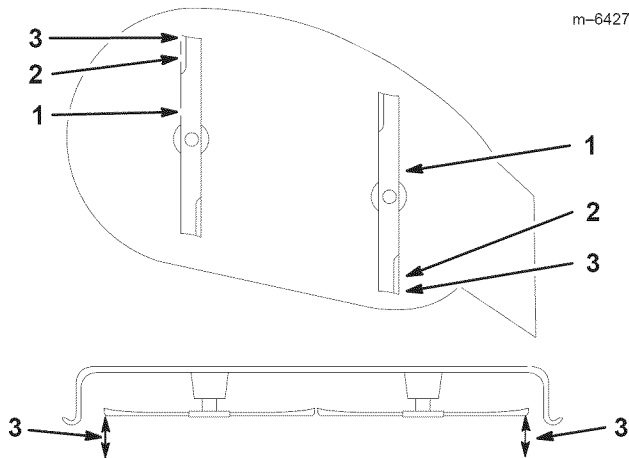

Figure 40
- Set the height-of-cut at position **D** [3 inch (76 mm)] and carefully rotate the blades so they are facing front to rear (Fig. 40).
- Measure from the tip of the front blade to the flat surface and the tip of the rear blade to the flat surface (Fig. 40). If the front blade tip is not $1/16$ – $5/16$ inch (1.6–7.9 mm) lower than the rear blade tip, adjust the front locknuts.